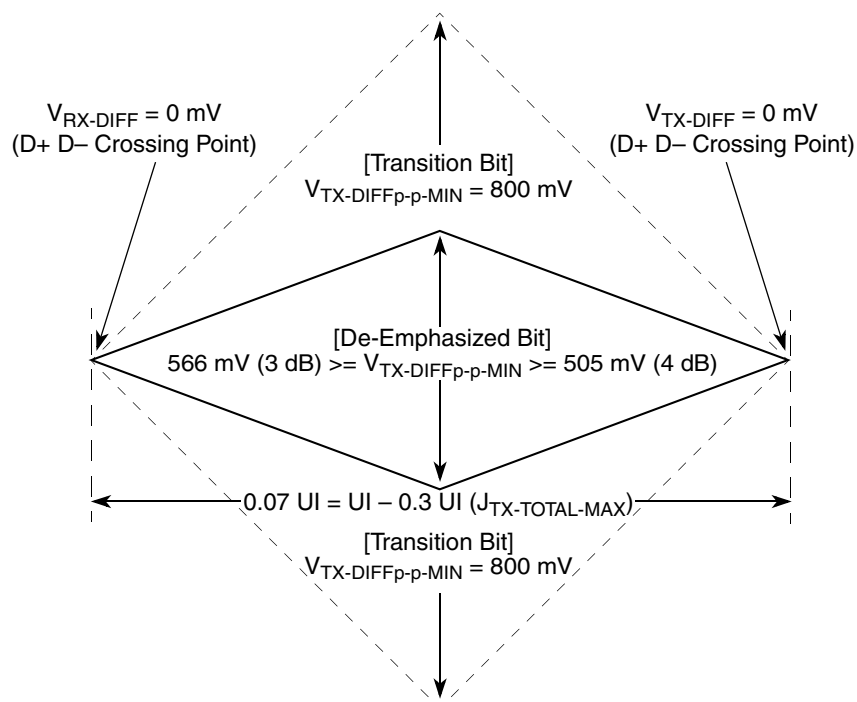
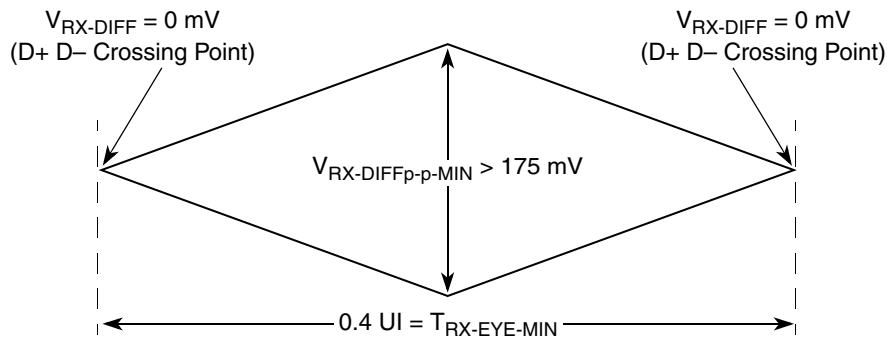
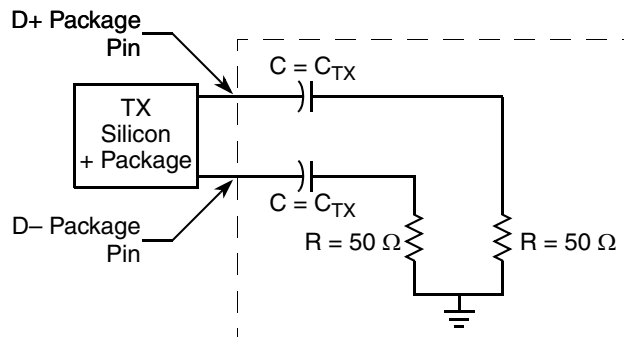

Figure 48. Minimum Transmitter Timing and Voltage Output Compliance Specifications
Figure 49. Minimum Receiver Eye Timing and Voltage Compliance Specification
Figure 50. Compliance Test/Measurement Load
2. Specified at the measurement point into a timing and voltage compliance test load as shown in Figure 50 and measured over any 250 consecutive TX UIs. (Also see the transmitter compliance eye diagram shown in Figure 48.)
4. The transmitter input impedance shall result in a differential return loss greater than or equal to 12 dB and a common mode return loss greater than or equal to 6 dB over a frequency range of 50 MHz to 1.25 GHz. This input impedance requirement applies to all valid input levels. The reference impedance for return loss measurements is 50  $\Omega$  to ground for both the D+ and D– line (that is, as measured by a vector network analyzer with 50- $\Omega$  probes—see Figure 50). Note that the series capacitors  $C_{\text{TX}}$  is optional for the return loss measurement.
5. Measured between 20%–80% at transmitter package pins into a test load as shown in Figure 50 for both  $V_{\text{TX-D+}}$  and  $V_{\text{TX-D-}}$ .
The TX eye diagram in Figure 48 is specified using the passive compliance/test measurement load (see Figure 50) in place of any real PCI Express interconnect +RX component.
2. Specified at the measurement point and measured over any 250 consecutive UIs. The test load in Figure 50 must be used as the RX device when taking measurements (also see the receiver compliance eye diagram shown in Figure 49). If the clocks to the RX and TX are not derived from the same reference clock, the TX UI recovered from 3500 consecutive UI must be used as a reference for the eye diagram.
4. The receiver input impedance shall result in a differential return loss greater than or equal to 15 dB with the D+ line biased to 300 mV and the D– line biased to –300 mV and a common mode return loss greater than or equal to 6 dB (no bias required) over a frequency range of 50 MHz to 1.25 GHz. This input impedance requirement applies to all valid input levels. The reference impedance for return loss measurements for is 50  $\Omega$  to ground for both the D+ and D– line (that is, as measured by a vector network analyzer with 50- $\Omega$  probes—see Figure 50). Note: that the series capacitors CTX is optional for the return loss measurement.
The RX eye diagram in Figure 49 is specified using the passive compliance/test measurement load (see Figure 50) in place of any real PCI Express RX component.
Note: In general, the minimum receiver eye diagram measured with the compliance/test measurement load (see Figure 50) is larger than the minimum receiver eye diagram measured over a range of systems at the input receiver of any real PCI Express component. The degraded eye diagram at the input receiver is due to traces internal to the package as well as silicon parasitic characteristics which cause the real PCI Express component to vary in impedance from the compliance/test measurement load. The input receiver eye diagram is implementation specific and is not specified. RX component designer must provide additional margin to adequately compensate for the degraded minimum receiver eye diagram (shown in Figure 49) expected at the input receiver based on some adequate combination of system simulations and the return loss measured looking into the RX package and silicon. The RX eye diagram must be aligned in time using the jitter median to locate the center of the eye diagram.
The reference impedance for return loss measurements is 50. to ground for both the D+ and D- line (that is, as measured by a vector network analyzer with 50-Ω probes—see Figure 50). Note that the series capacitors, CTX, are optional for the return loss measurement.
The AC timing and voltage parameters must be verified at the measurement point, as specified within 0.2 inches of the package pins, into a test/measurement load shown in Figure 50.